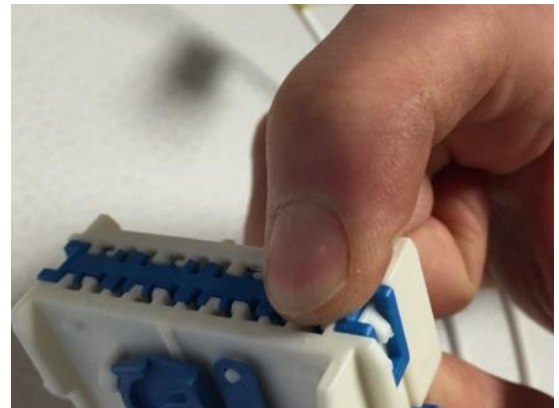

Figure 27: Blue lock lever in lock position
9. Push down blue lock lever to secure wires to service connector as shown in Figure 27.